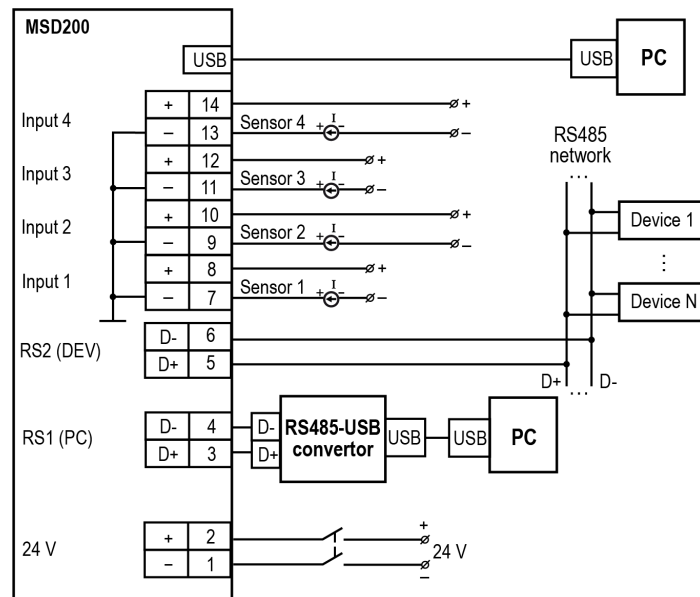

Fig. 6.2 Connection diagram
- The electrical connections are shown in Fig. 6.2 and the terminal assignments in Tab. 6.1.